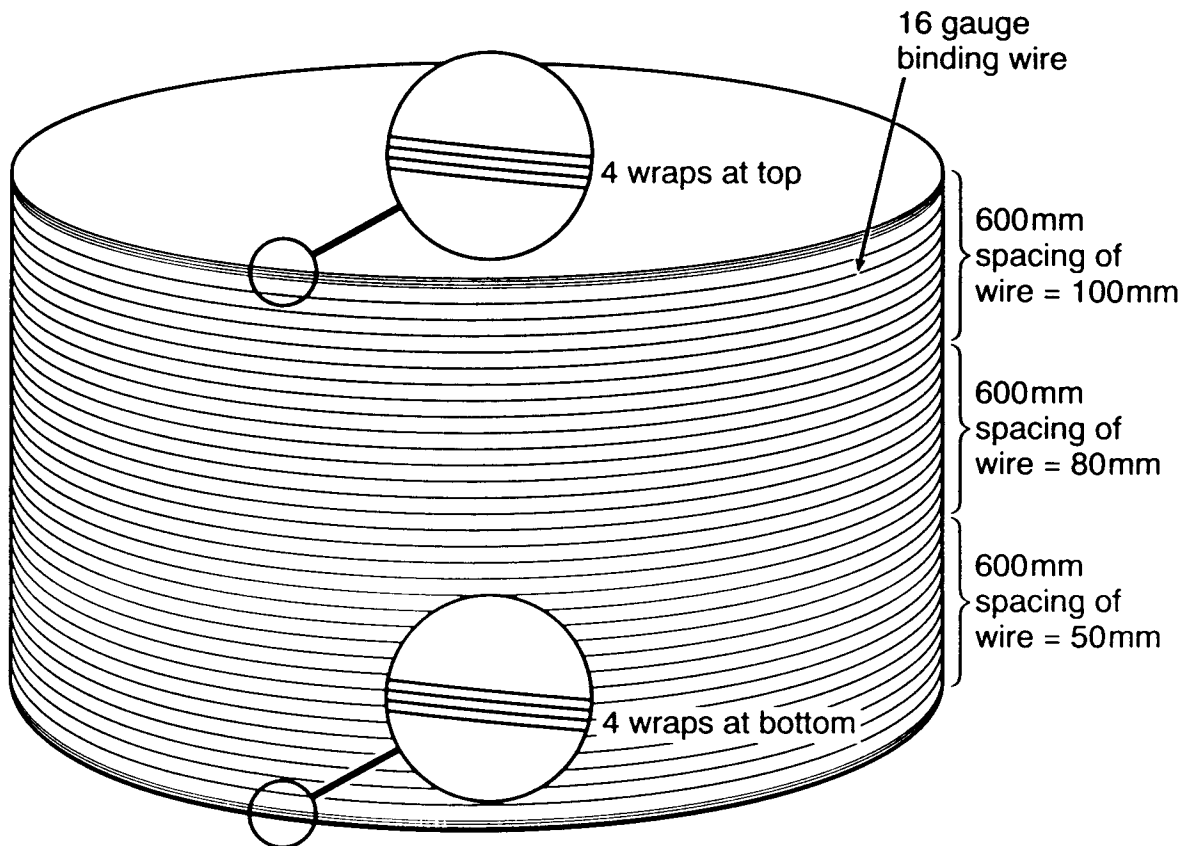

Figure 11.11 Wrapping the binding wire
- Tightly wrap 16 gauge binding wire around the wall as follows (see Figure 11.11)